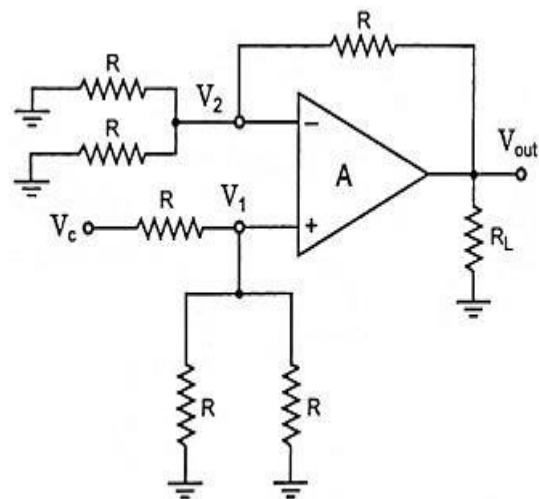

**Fig. 36.3** *Summing Amplifier in Differential Configuration*
**Summing Amplifier in Differential Configuration:** A four-input summing amplifier (Fig. 36.3) may be constructed using the basic differential amplifier shown in Fig. 34.29 by adding two input sources, one each to the inverting and noninverting input terminals through resistor  $R$ .
Now if input voltages  $V_a$ ,  $V_b$  and  $V_d$  are made zero, the circuit shown in Fig. 36.3 becomes a noninverting amplifier (Fig. 36.5) in which the voltage  $V_1$  at the noninverting input terminal is
The above equation reveals that the output voltage is equal to the sum of the input voltages applied to the noninverting input terminal plus the negative sum of the input voltages applied to the inverting input terminal. Even though in the circuit shown in Fig. 36.3 the gain of the summing amplifier is unity, any scale factor can be used for the inputs by selecting proper external resistors.